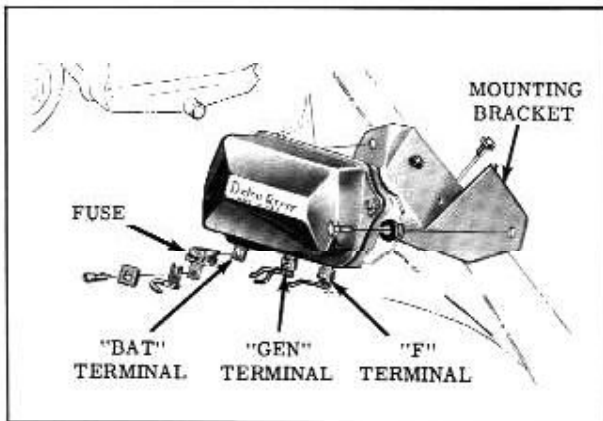

Fig. 13-29 Voltage Regulator
2. Disconnect the wires from the "BAT", "GEN" and "F" terminals of the regulator. (Fig. 13-29)